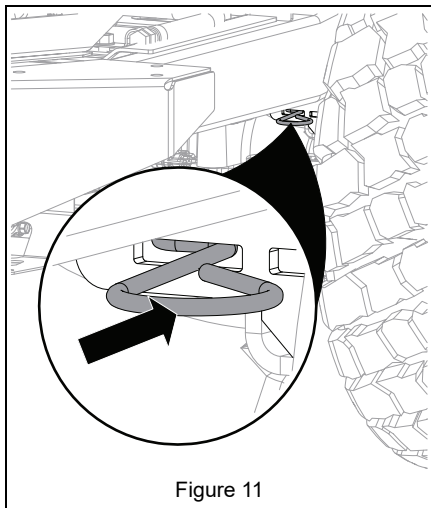

Figure 11
11. Push transaxle bypass levers in to engage transaxles. See Figure 11.